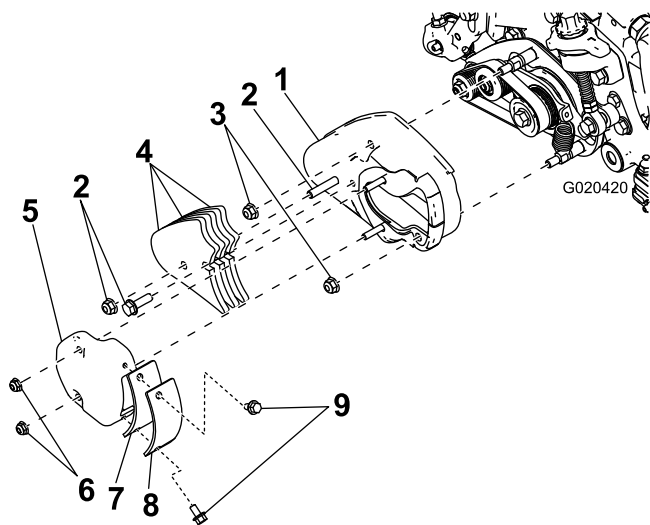

Figure 2
1. Remove the 2 flange nuts securing the groomer access cover to the groomer cover and set them aside (Figure 2).
2. Remove the 2 flange-head bolts securing the groomer cover plate and gasket to the groomer access cover (Figure 2).
5. Remove the 2 bolts and nuts securing the groomer weights to the groomer cover and discard them (Figure 2).